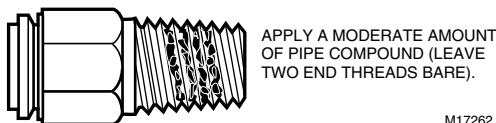

Fig. 4. Proper application of pipe dope.
1. Coat threads with a moderate amount of pipe dope, leaving two end threads bare. See Fig. 4.
1. Coat external spud threads with a moderate amount of pipe dope, leaving two end threads bare. See Fig. 4.